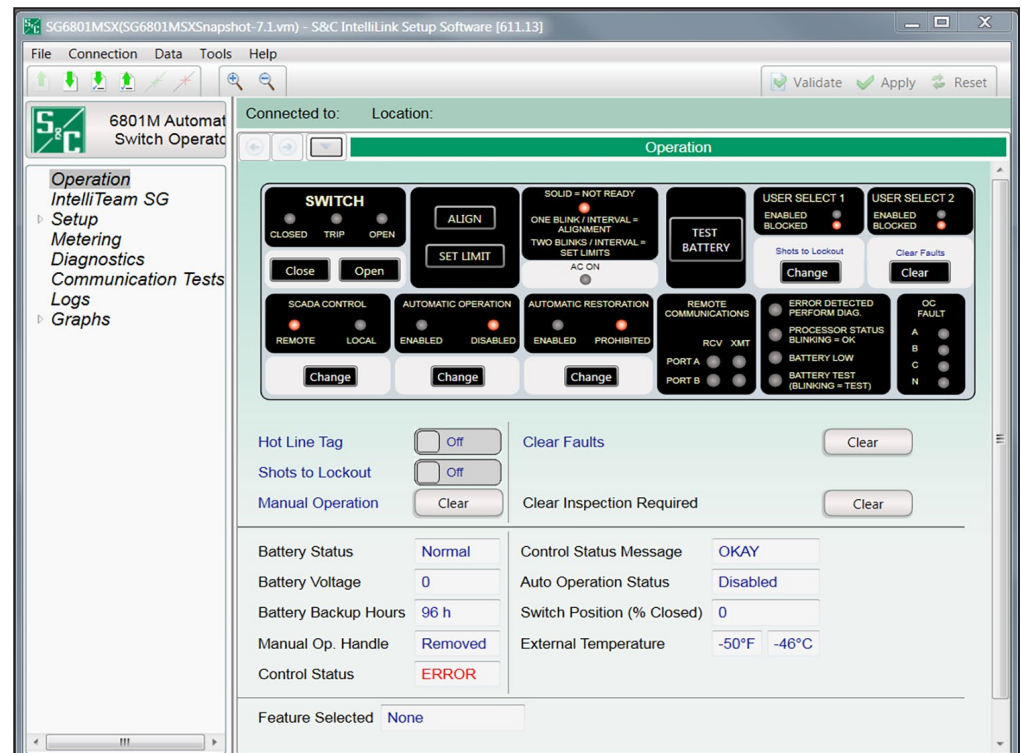

Figure 10. The 6801M Automatic Switch Operator *Operation* screen.
STEP 8. When the login has completed, the *Operation* screen opens. See Figure 10.